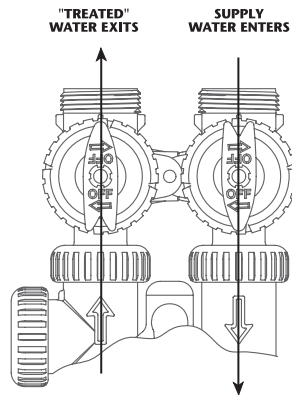

Figure 1
1. **Normal Operation Position:** The inlet and outlet handles point in the direction of flow indicated by the engraved arrows on the control valve. Water flows through the control valve for normal operation of a water softener or filter. During the regeneration cycle this position provides regeneration water to the unit, while also providing untreated water to the distribution system (Fig. 1).